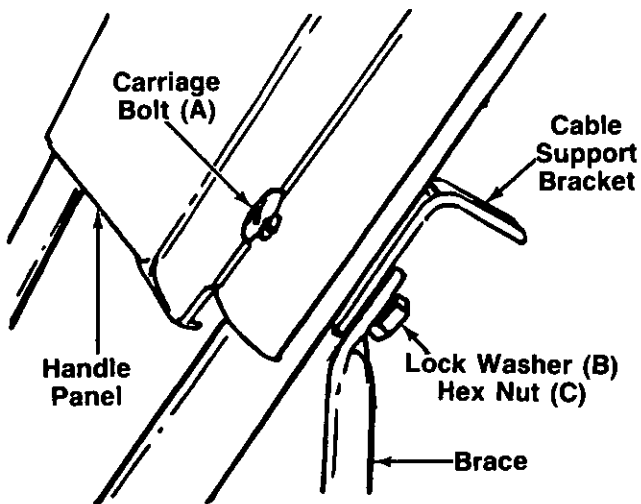

FIGURE 11.
13. Place carriage bolt (A) through the handle panel, handle, cable support bracket and handle brace on the lower left hand side of handle panel as shown in figure 11. Use the bottom hole in the cable support bracket. Secure with lock washer (B) and hex nut (C), finger tight only.